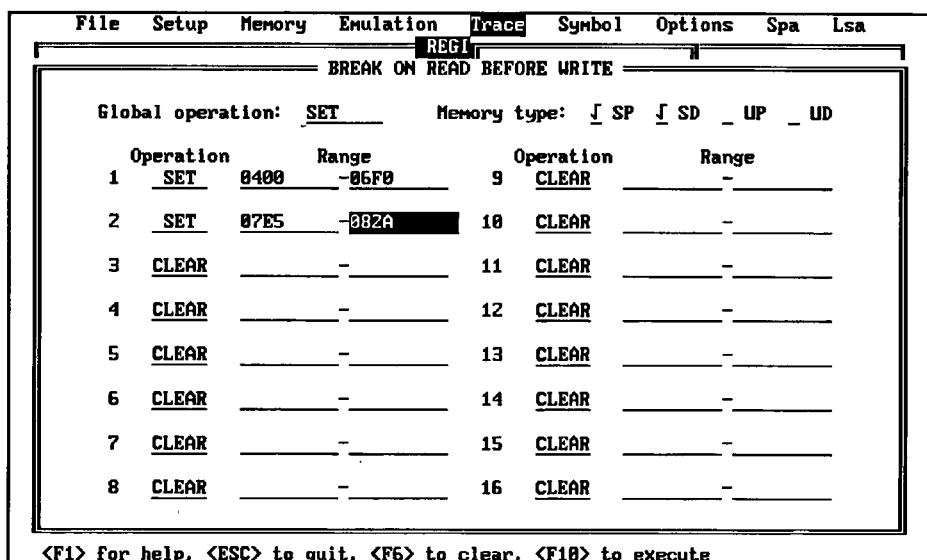

Figure 5-34 Setting Memory Block Range in 'Range' Field
3. If SET Operation is selected, move cursor to the appropriate field under Range. Enter the starting point of the memory block range (in hexadecimal address) to be "initialized". Then continue to move to the next (right column) field and enter the last point of the memory block (Figure 5-34). Repeat procedure until all desired memory block ranges are set. Press <F10> to execute.